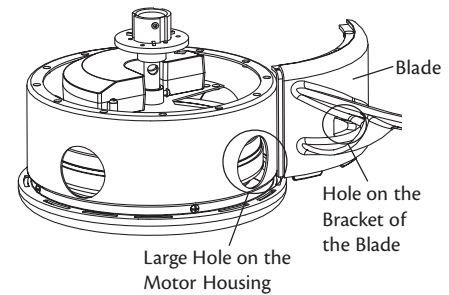

Figure 12 - Assembling the blades
- Assemble a blade as shown in Figure 12.